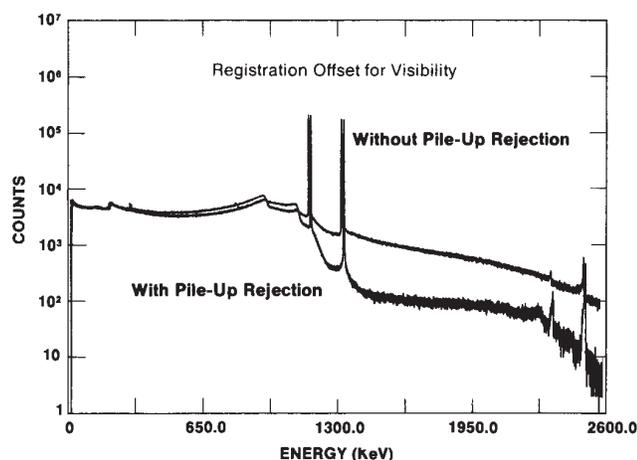

Fig. 3. Demonstration of the Effectiveness of the Pile-Up Rejector in Suppressing the Pile-Up Spectrum. See Pulse Pile-Up Rejector specification.
**Pulse Pair Resolution** Typically 500 ns. Measured using the  $^{60}\text{Co}$  1.33-MeV gamma ray under the following conditions: 10% efficiency germanium detector, 4-V amplitude for the 1.33-MeV gamma ray at the unipolar output, 50,000 counts/s (Fig. 3).